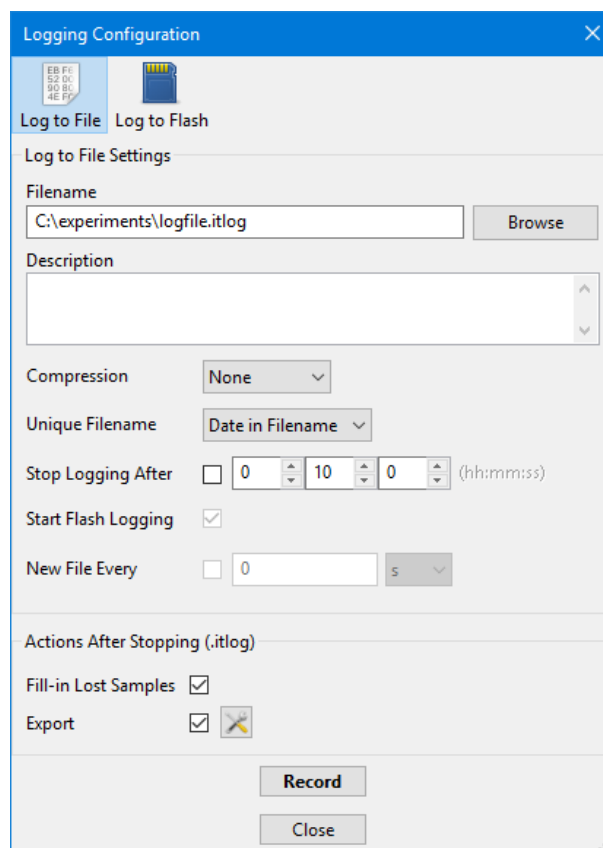

Figure 26: Log to File Configuration
1. By using the *Record* button from the toolbar; to change the settings for creating a log file, select the *Log to File...* option from the drop-down menu of the *Record* button; this option opens the *Logging Configuration* window for logging to file (see Figure 26).
2. By selecting the *Log to File...* option from the *File* menu, *Record* item; this option opens the same *Logging Configuration* window for logging to file (see Figure 26).